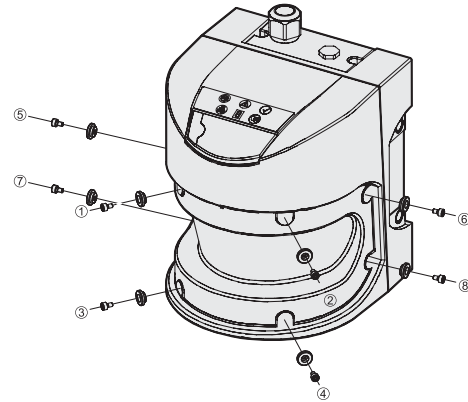

Figure 61: Removing the mounting screws for the front screen
- ➔ Place the front screen on the rubber seal and insert the new mounting screws ① to ④ with spacers (see Figure 61).
- ➔ Press the front screen on the front of the cover. During this process tighten the front screws ① to ④ to the torque set.
- ➔ Then insert the rest of the screws ⑤ to ⑧ with spacers (see Figure 61) and tighten using the torque wrench.